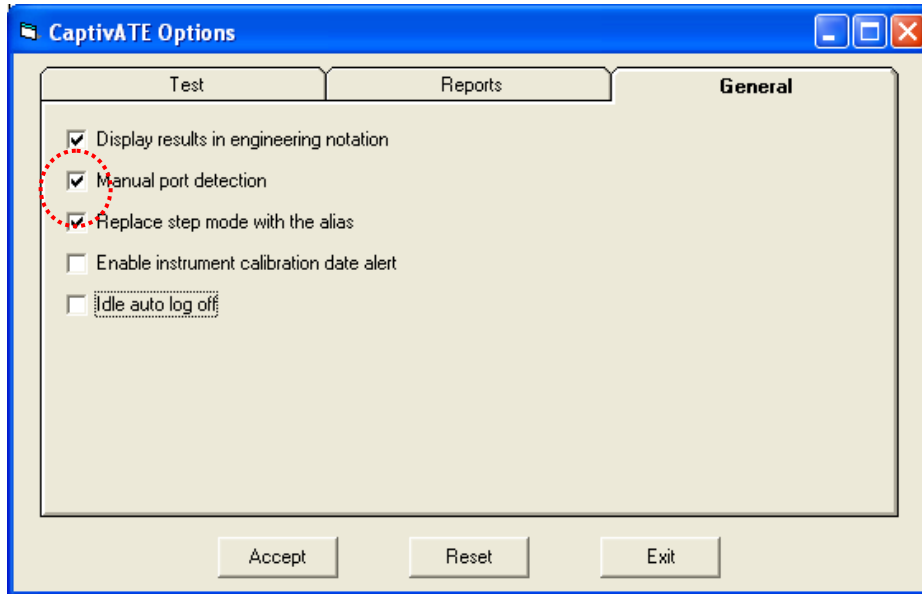

Figure 18 “Manual Port Detection” Pop-up
1. Change the Manual port detection software switch, circled in Figure 18, to check-marked.